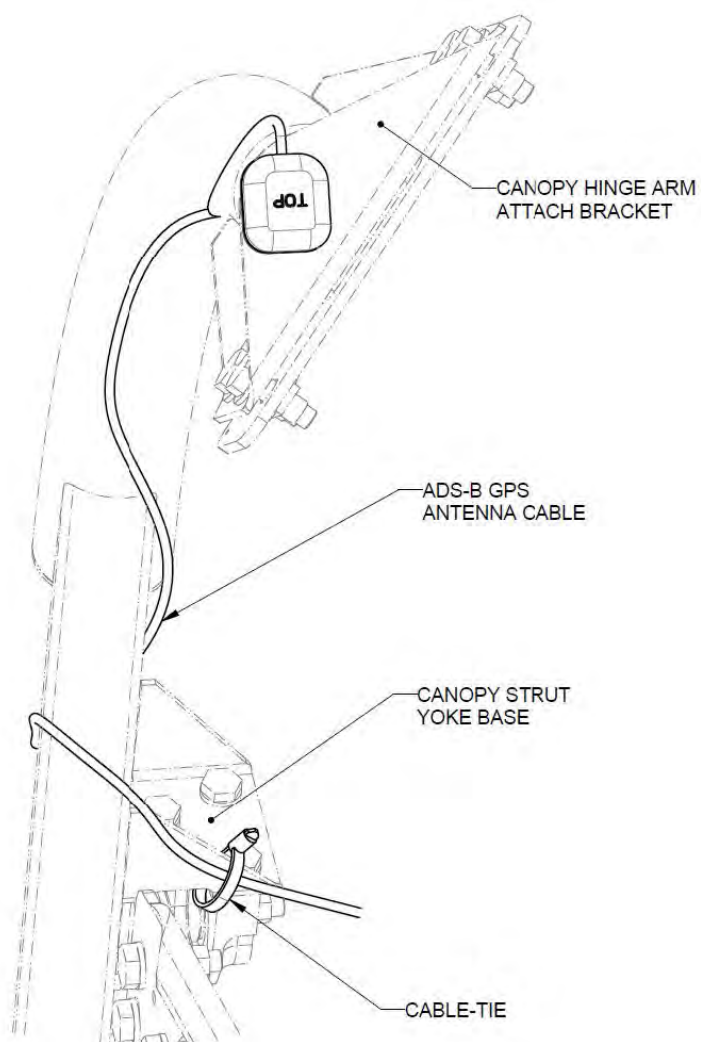

FIGURE 14-76
4. Secure the cable with the CABLE-TIE around the Canopy Strut Yoke Base as shown in Figure 14-76.